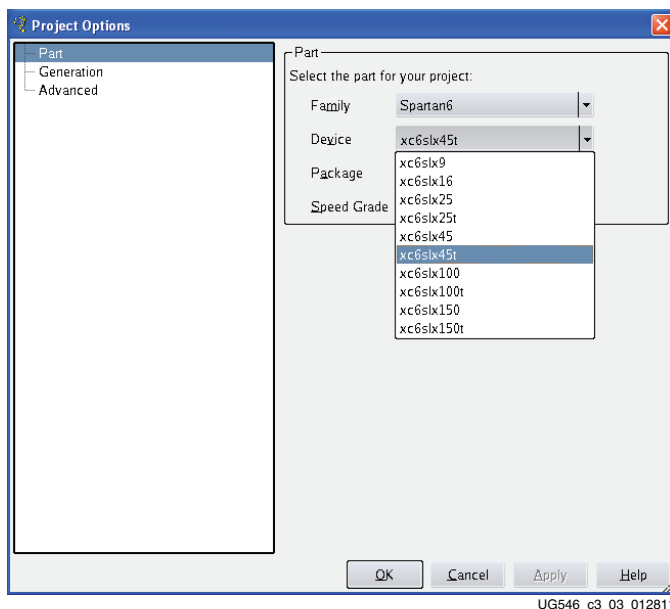

Figure 3-5: Target Architecture Setting
4. Select an appropriate package from the Package list. This example uses the XC6SLX45T device (see Figure 3-5).